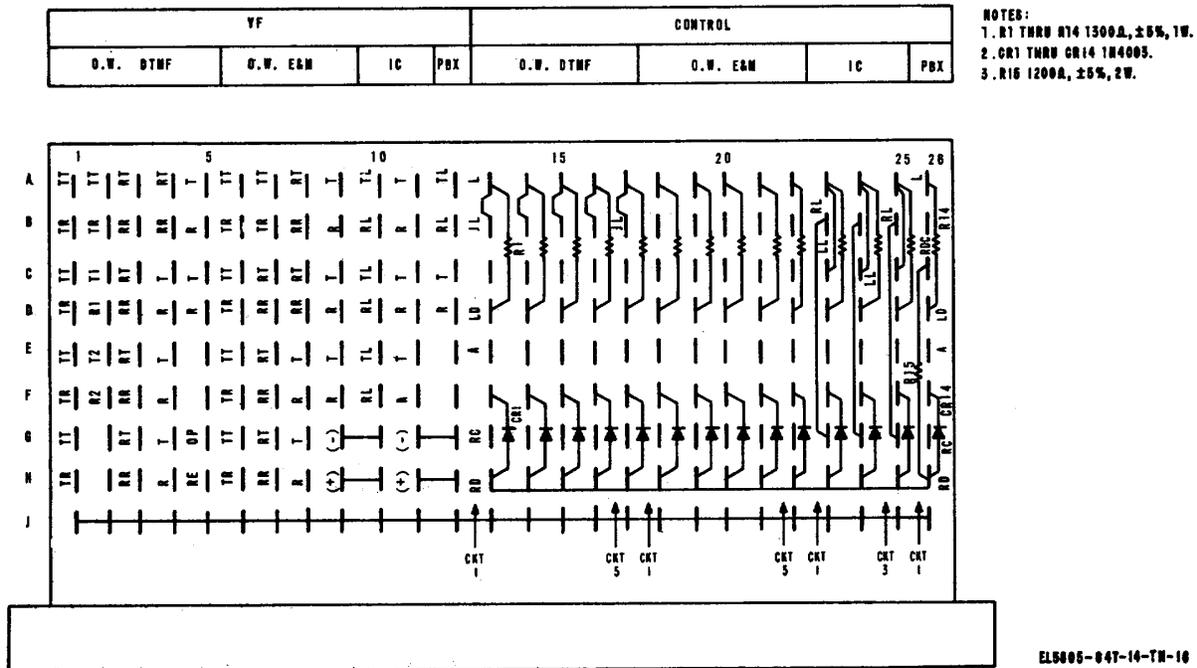

Figure 2-11. Typical terminal block TBI, EOW sites, bottom view from rear.
(2) Expansion chart. The expansion chart in k below provides the unit equipment requirement based on orderwire circuit expansion. Refer to figures 2-11 and 2-12 for identification and physical location of connection points on the cabinet mounted terminal blocks (TB1) for strapping requirements. The following paragraphs provide strapping option information and installation information for those components affected by expansion of the equipment capability.
(1) Common equipment terminal block TB1
strapping option (fig. 2-11). A strapping option is provided for receiving an incoming audible ring on the desk mounted operator's access unit. A distant end station can only initiate an audible ring to the desk unit when the associated ring control (RC) terminal point on TB1 of the common equipment is strapped to the negative side of the associated diode which is mounted on TB1. Physical location of each ring control point and its associated diode is shown in figure 2-11.